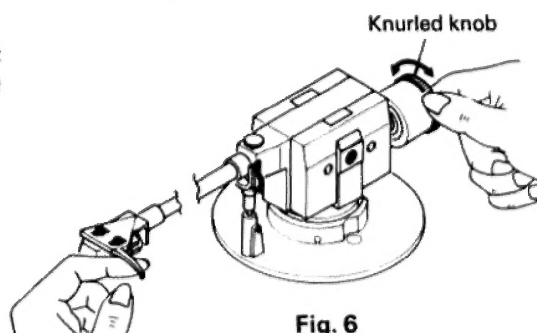

Fig. 6
2. Turn the knurled knob of the counterweight and stop it at the position that the stylus tip almost touches the record surface. (See Fig. 6.)